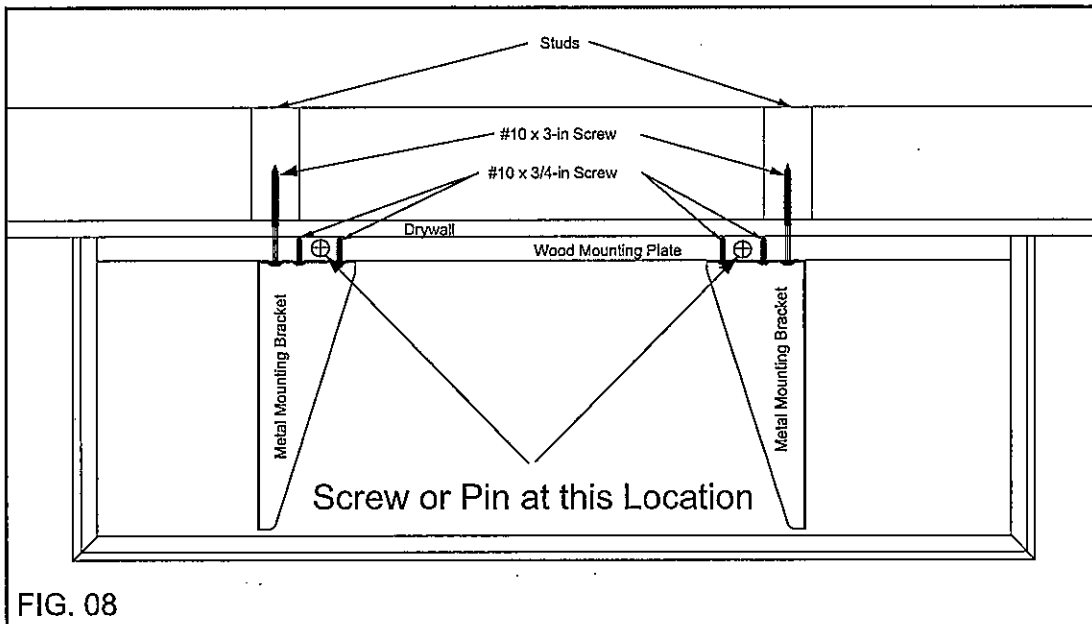

FIG. 08
**Step 8:** When you are satisfied that the **Floating Shelf** is located correctly, screw or pin the **Floating Shelf** to the **Wood Mounting Plate** as shown. When using the **#6 x 3/4-in Flat Head Screws** provided, drill 1/8-in dia pilot holes in the **Floating Shelf** at the 2 locations shown in Fig. 08 prior to inserting the screws.